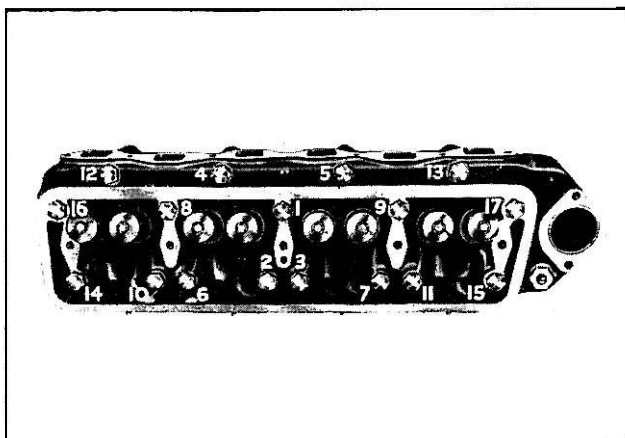

Fig. 47
- 3 Replace the cylinder head and screw in the 17 bolts and tighten in the order shown in Fig. 47, to the correct torque.